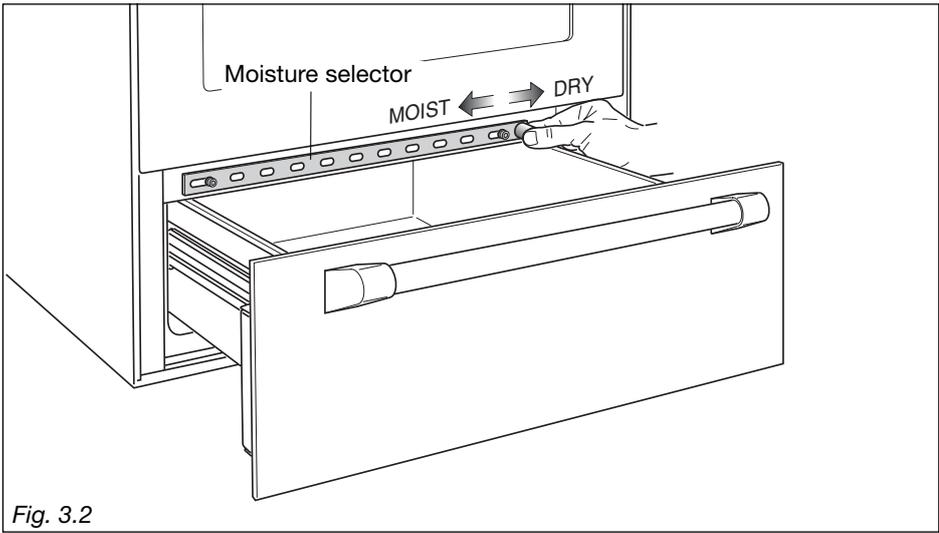

Fig. 3.2
- Push and turn the control knob to a temperature setting: (LO), (HI) or between (LO) and (HI) position.
- Slide the Moisture selector to a Moist or Dry position. Intermediate positions can be setted (fig. 3.2) (see the “MOISTURE SELECTOR” chapter)
**MOISTURE SELECTOR** (fig. 3.2)